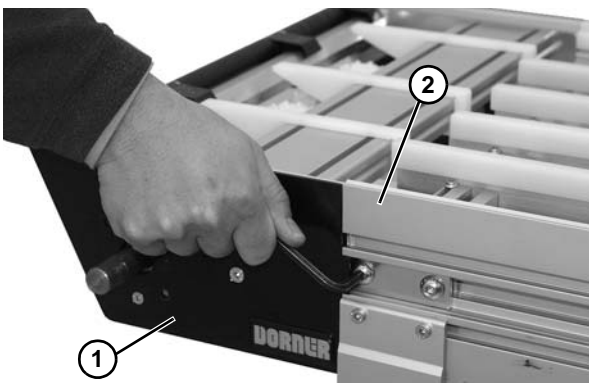

Figure 79
When reinstalling the nose bar drive spindle tail assembly, the drive tail assembly (Figure 79, item 1) should mate flush with the conveyor frame (Figure 79, item 2).